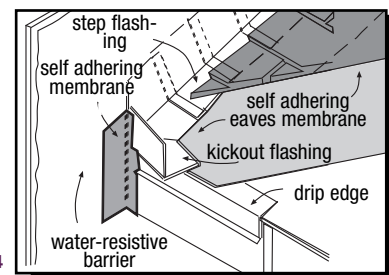

FIGURE 14
- Install kickout flashing at roof-wall junctions (fig. 14).
Because of the volume of water that can pour down a sloped roof, one of the most critical flashing details occurs where a roof intersects a sidewall. The roof must be flashed with step flashing. Where the roof terminates, install a kickout to deflect water away from the siding. It is best to install a self-adhering membrane on the wall before the subsfascia and trim boards are nailed in place, and then come back to install the kickout. To prevent water from dumping behind the siding and the end of the roof intersection, install a "kickout" of sufficient length and angle to direct the water running down the roof away from the siding (fig. 14).†